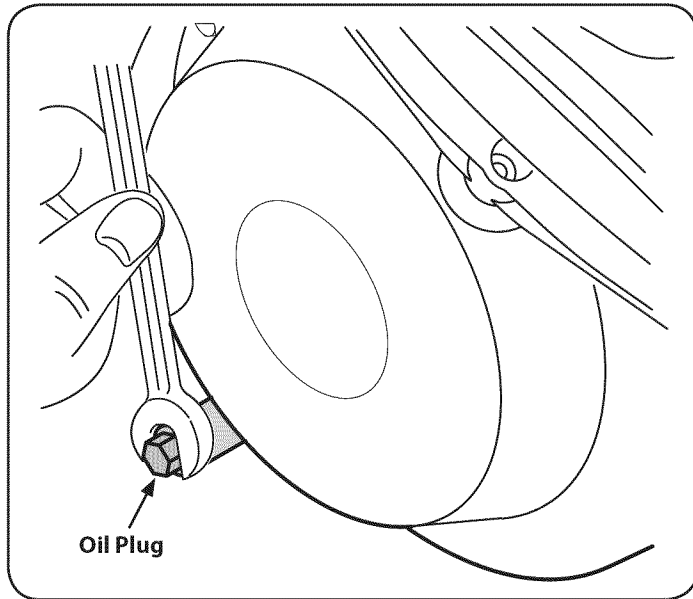

Figure 11
3. Remove the oil drain plug, Figure 11.